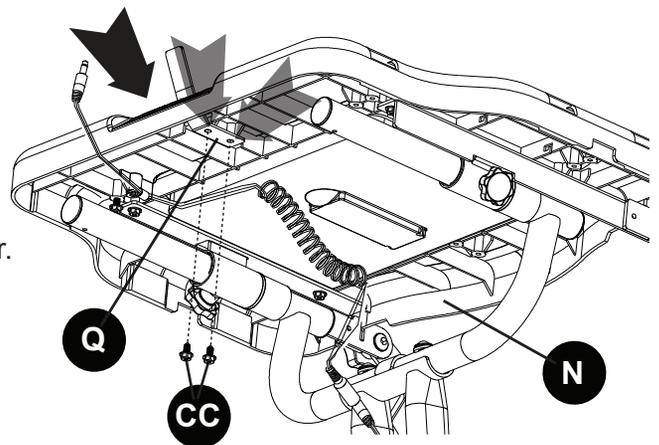

FIGURE 12
Step 12: Once desk (N) is installed, connect the Meter Wire to the wire from the frame. Slide the Meter Holder (Q) and Meter Wire through the opening in the top center of the Desk, then install and tighten the two screws (CC) through the Meter Holder. **Figure 12**